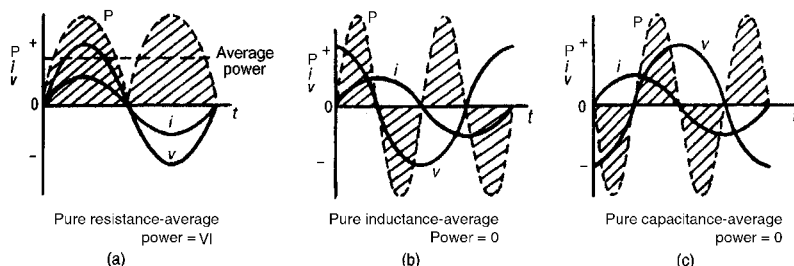

Figure 15.22
In Figures 15.22(a)–(c), the value of power at any instant is given by the product of the voltage and current at that instant, i.e. the instantaneous power, $p = vi$, as shown by the broken lines.
$P = VI = I^2R = V^2/R$ watts (V and I being rms values) See Fig. 15.22(a)
- For a purely inductive a.c. circuit, the average power is zero. See Fig. 15.22(b)
- For a purely capacitive a.c. circuit, the average power is zero. See Fig. 15.22(c)